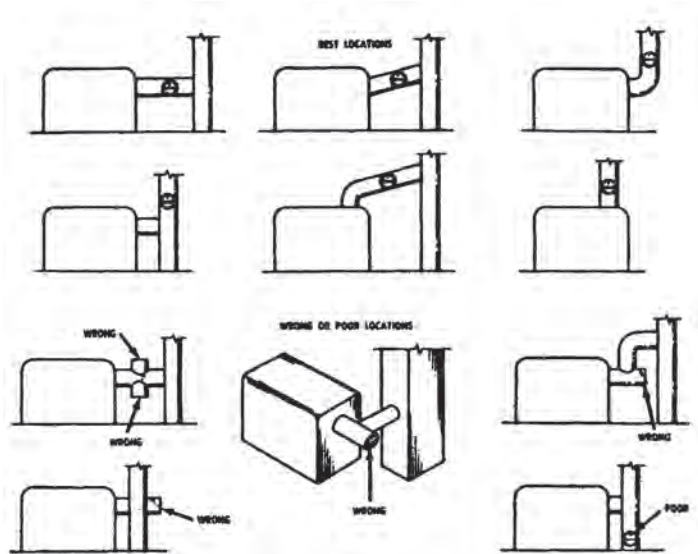

Figure 10: Proper and Improper Locations of Draft Regulator
1. INSTALL DRAFT REGULATOR following instructions furnished with Regulator. See Figure 10.